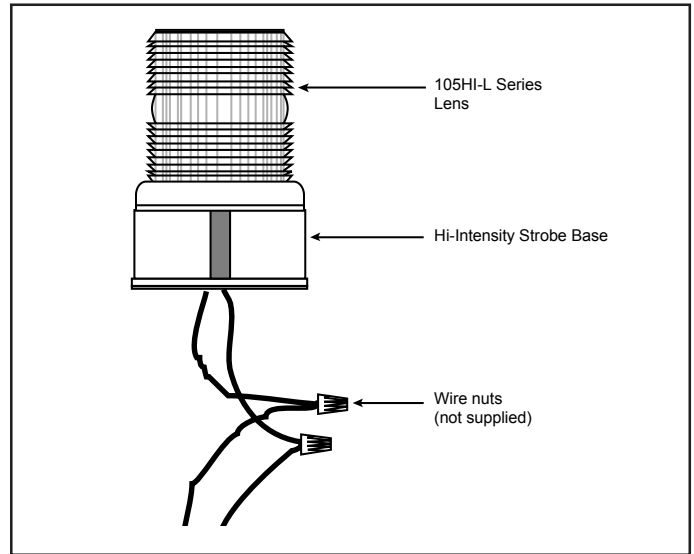

Figure 4. Wiring the 105 Series Beacons (Hi-Intensity Strobe shown)
6. Attach the unit's wire leads to the field wiring as shown in Figure 4.